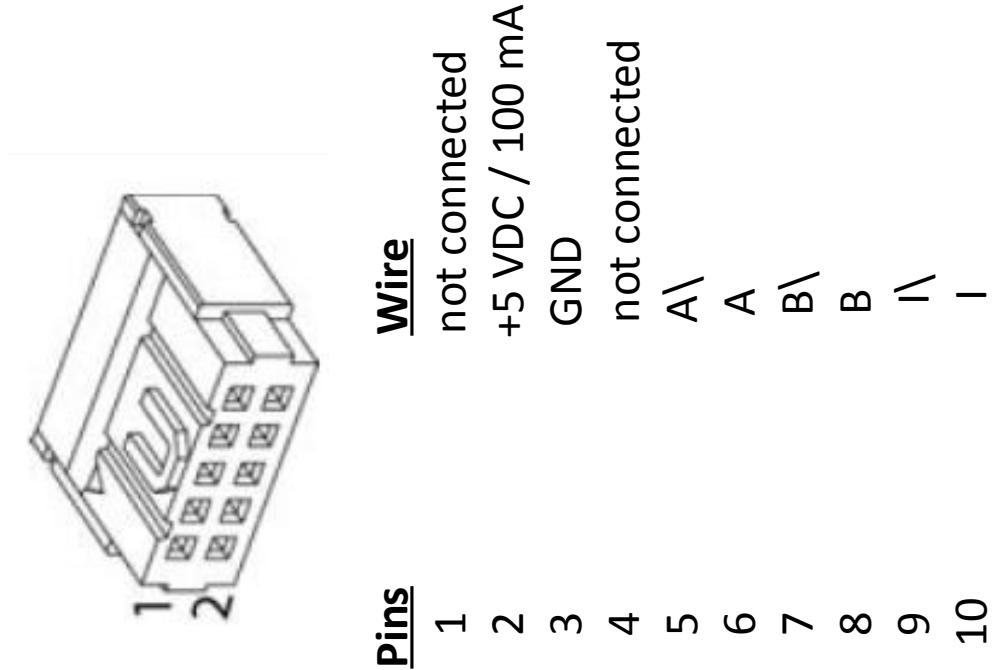

Figure 3.22: 10pinF(Encoder): DIN 41651 connector, pitch 2.54 mm, 10 poles, plug strain relief (Female)
- Picture and pinout: see figure 3.22